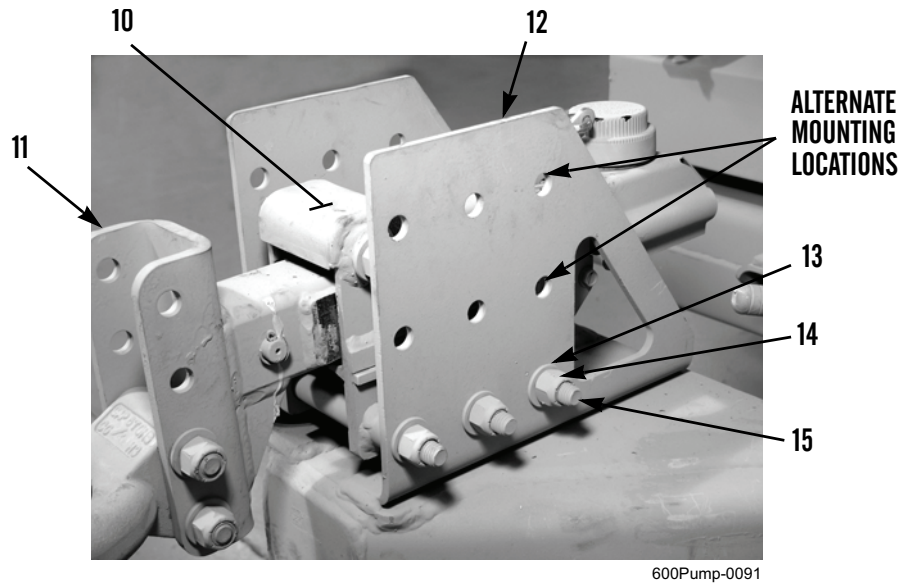

Figure 11. Hydraulic Brake Actuator Assembly.
1. Position actuator bracket (Figure 11, Item 11) and actuator housing (Figure 11, Item 10) as an assembly at welded actuator bracket (Figure 11, Item 12).
2. Secure assembly to welded actuator bracket (Figure 11, Item 12) with three capscrews (Figure 11, Item 15), washers (Figure 11, Item 13), and new locknuts (Figure 11, Item 14). Tighten locknuts to 105 lb-ft (142 Nm).